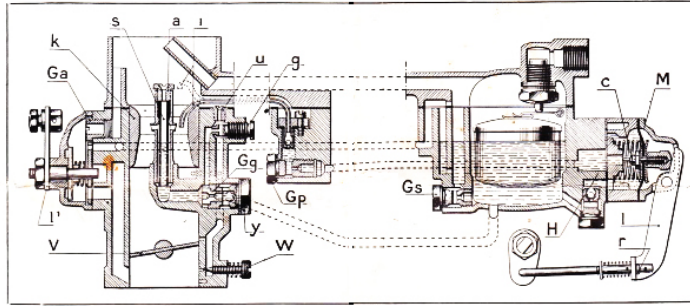
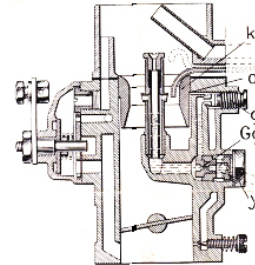

Fig. 1
Fig. 2
III. AIR D'ÉMULSION DU RALENTI : Dans le 32 PBIC de série normale, l'air d'émulsion du ralenti est assuré par un calibre d'air de ralenti (u). Voir figure 1. Pour certaines applications particulières, le calibre d'air (u) est supprimé et remplacé par un orifice calibré (O) percé dans le corps du carburateur au niveau d'un espace annulaire ménagé à la partie inférieure de la buse d'air K. Voir figure 2.
3. PILOT AIR BLEED: In the normal 32 PBIC the air for the idling circuit is provided by a calibrated orifice (u). See figure 1. In certain particular cases this air bleed (u) is suppressed, being replaced by a calibrated orifice (O) situated in the body of the carburettor level with an annular groove provided in the lower part of the choke (K). See figure 2.
4. ACCELERATING PUMP: The accelerating pump injects a certain amount of supplementary petrol at the moment of acceleration in the following way: The throttle being closed—idling position—the membrane (M), held in position by a spring, allows a reserve of petrol to be built up. On the other hand the membrane (M) is connected to the accelerator by means of a lever to the throttle spindle. Consequently the instant the throttle is opened the movement of the spindle displaces the membrane (M) which forces petrol from the reserve through the pump jet (Gp) into the injector (i) discharging into the choke tube.